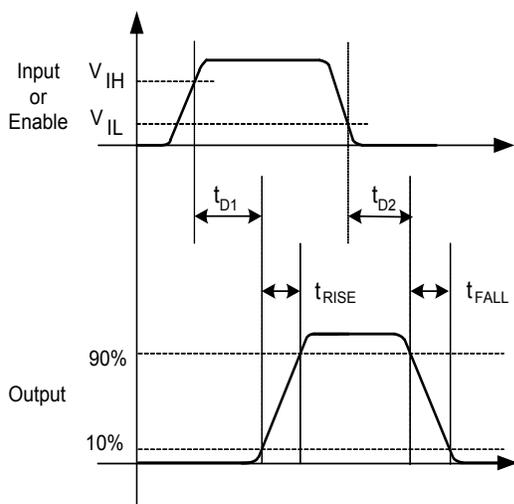
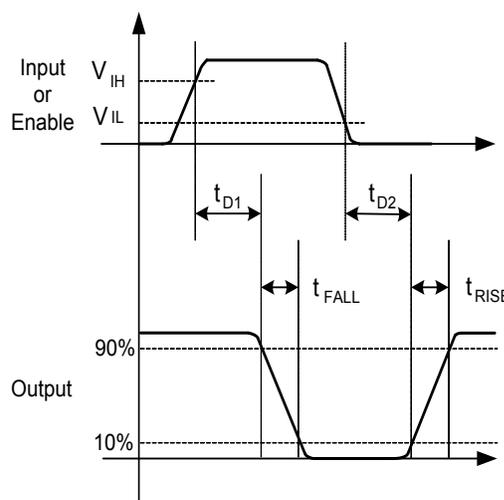

Figure 8. Non-Inverting
Figure 9. Inverting
- 11. See *Timing Diagrams of Figure 8 and Figure 9.*